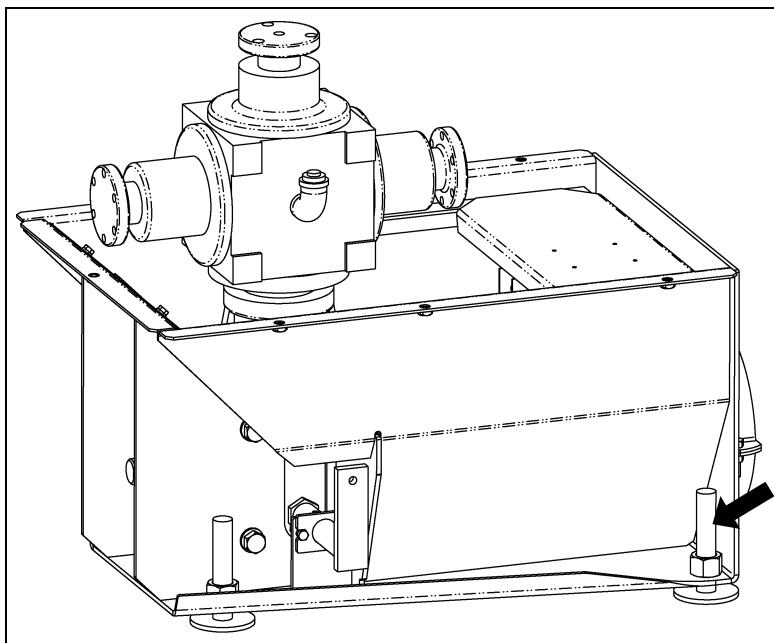
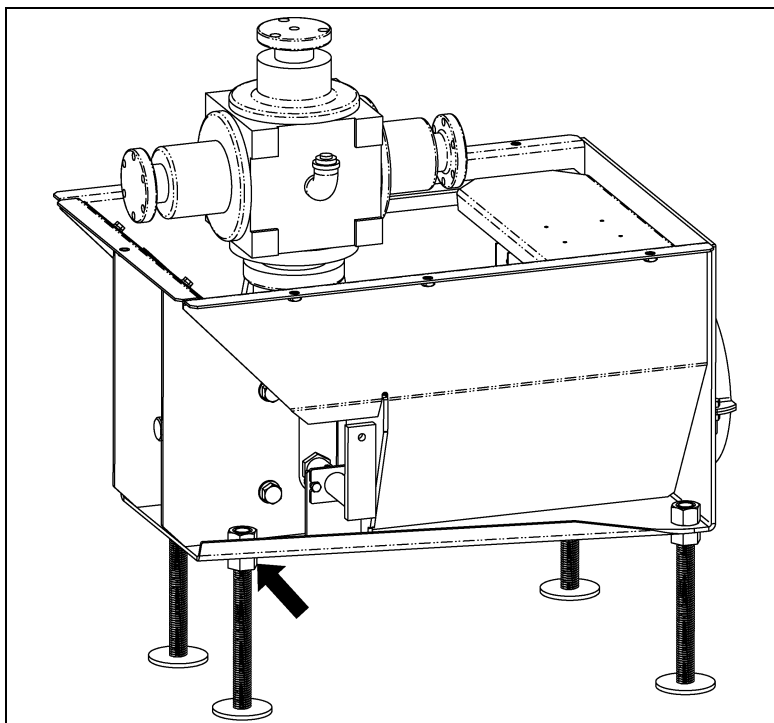

Figure 5B
Figure 5C
5. Turn the four (4) threaded sump legs into the welded nuts on the Grain Flow sump. If floor height is 12" or less, thread the 4" legs into the welded nuts on the Grain Flow sump and put locking jam nuts on top of the welded sump nut.
If floor height is greater than 12", thread the four (4) 3/4" jam nuts onto the threaded sump legs, then finish by threading the legs into the welded nuts on the Grain Flow sump. (*See Figure 5B and Figure 5C.*)